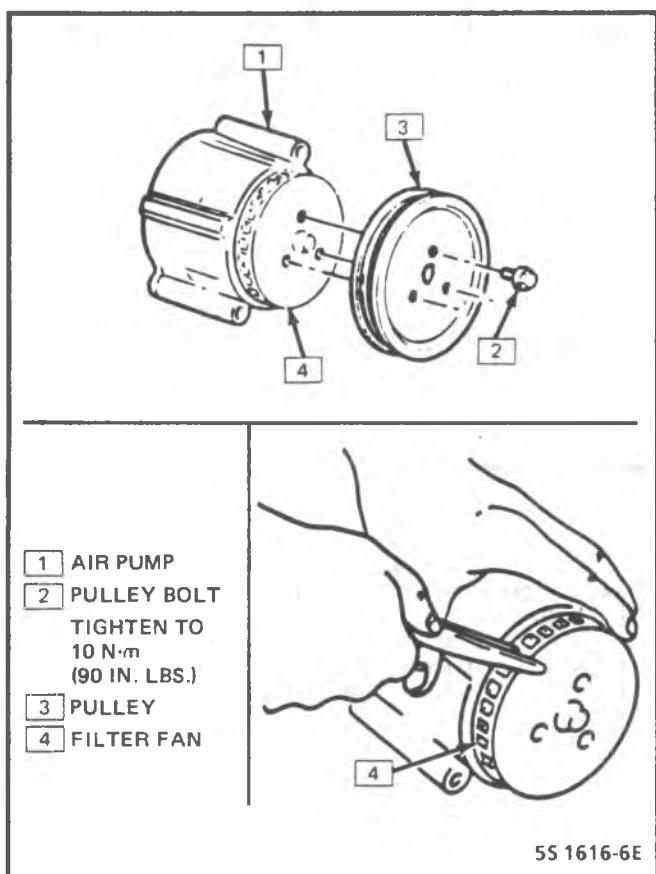

Figure 8-5 - Pump Filter Fan Service
(Figure 8-5)
5. If required, insert needle nose pliers and pull filter fan from hub (see Figure 8-5).